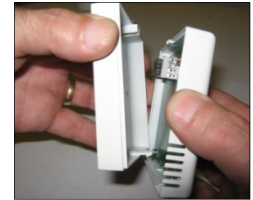

Fig 10
- Step 1** Using a screwdriver undo the screw on the top of the remote control case and pull the back case away (see Fig 10).